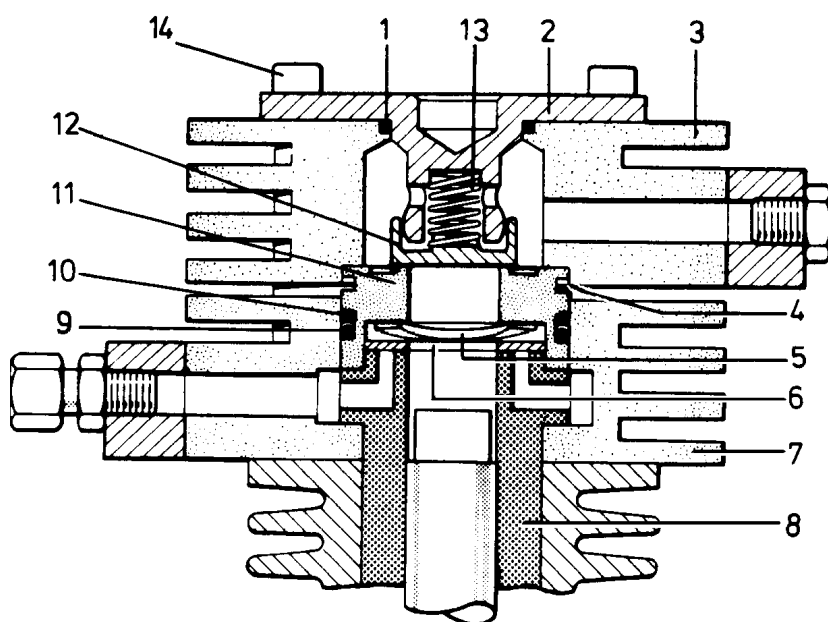

Fig. 38 Valve head and valves, 4th stage
- Screw on hex. nut (1) and tighten with torque wrench.
The valves are located in the valve head of the 4th stage, see Fig. 38. The inlet valve merely comprises a valve disk (6) and a wavy washer (5). The inlet valve seat is machined directly into the cylinder liner (8) of the 4th stage piston. The discharge valve consists of the valve seat (11), valve disk (12), valve spring (13), and stroke limiter (2).